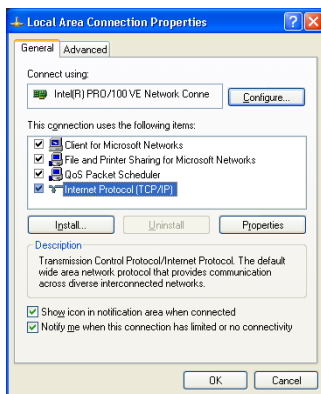

Figure 182: Local Area Connection Properties Window
5. Select the Internet Protocol (TCP/IP) and click the Properties Button (see Figure 182).